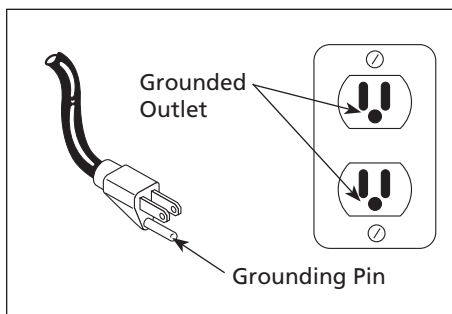

Figure 2 - Grounding Method
3. This product is for use on a nominal 120 volt circuit and has a grounding plug that looks like the plug illustrated in Figure 2. Make sure the product is connected to an outlet having the same configuration as the plug. This product must be grounded. In the event of an electrical short circuit, grounding reduces risk of electrical shock by providing an escape wire for electric current. This product is equipped with a cord having a grounding wire with an appropriate grounding plug. Plug must be plugged into an outlet that is properly installed and grounded in accordance with all local codes and ordinances.